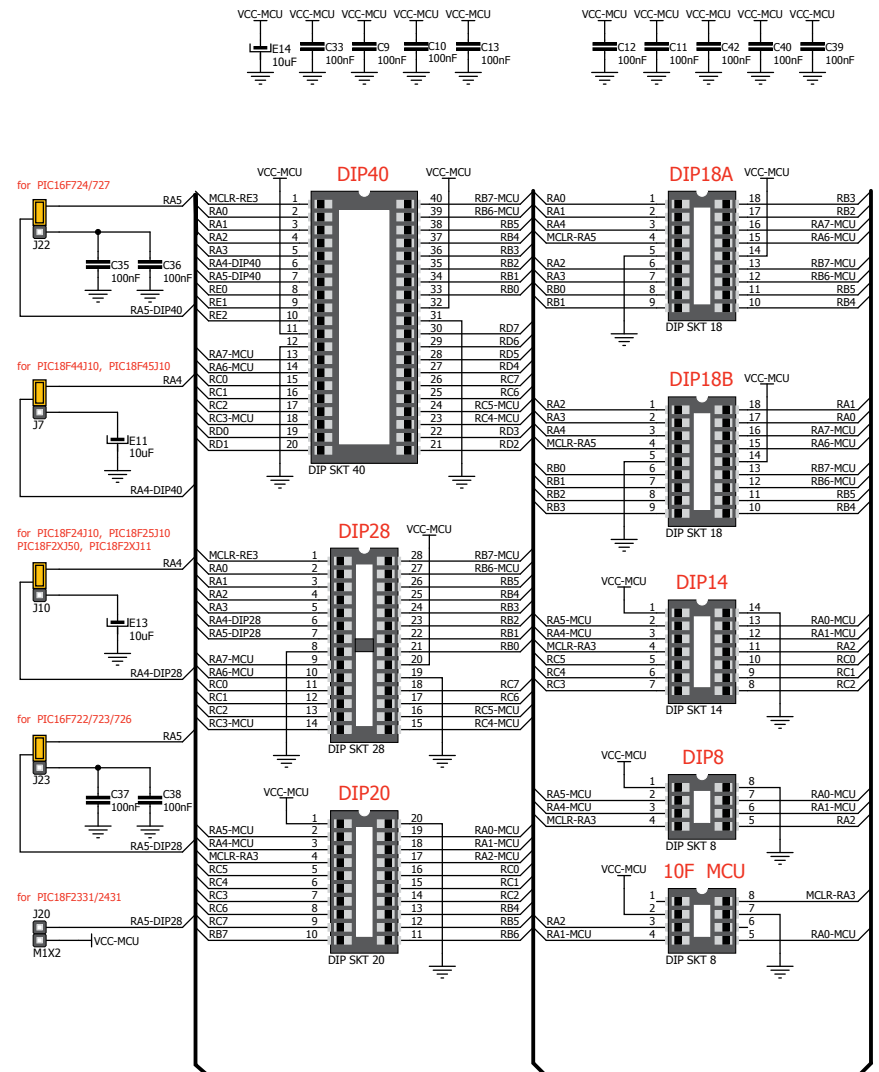

Figure 4-1: Schematic of on-board DIP sockets and VCAP jumpers
**IMPORTANT:** When using PIC18F2331 or PIC18F2431 microcontrollers it is necessary to place J20 jumper, in order to route VCC power line to RA5 pin (Figure 4-1)